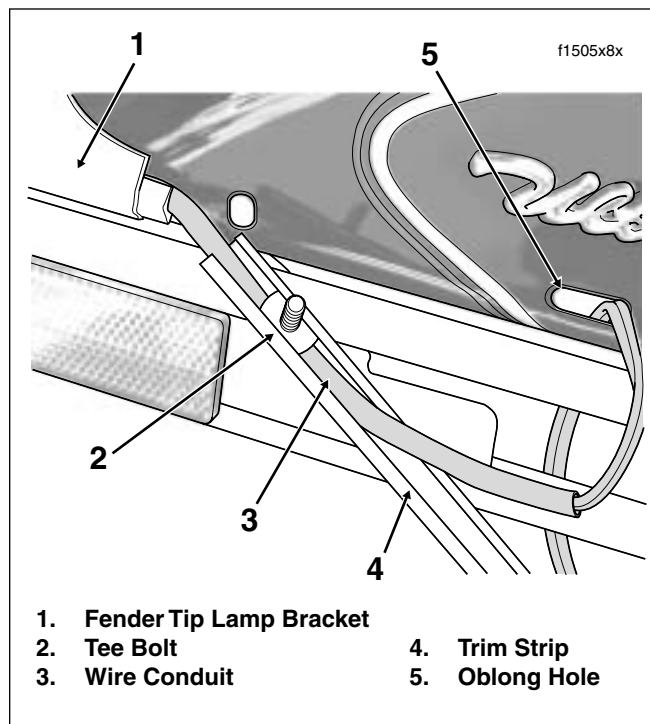

Figure 8-48. Install Conduit in Trim Strip
7. From inboard side of front fender, remove two nuts to release trim strip from left side of fender. See Figure 8-48.
6. Route wire conduit inside trim strip and slide front tee bolt over conduit. See Figure 8-48. Verify that second tee bolt is in position at rear of trim strip.